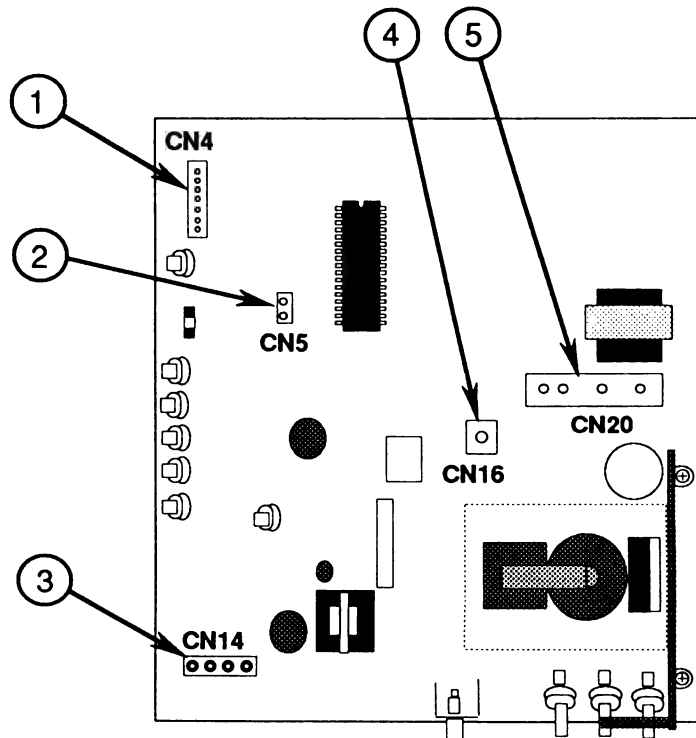

FIGURE 24
- CN4 - 7-wire connector from the control PCB at the front of the monitor (Figure 24, #1)
- CN5 - 2-wire connector from the white-only switch at the front of the monitor (Figure 24, #2)
- CN14 - 4-wire connector from the CRT board (Figure 24, #3)
- CN16 - 1-wire connector from the silver ground strap surrounding the CRT (Figure 24, #4)
- CN20 - 4-wire connector from the CRT neck (Figure 24, #5)